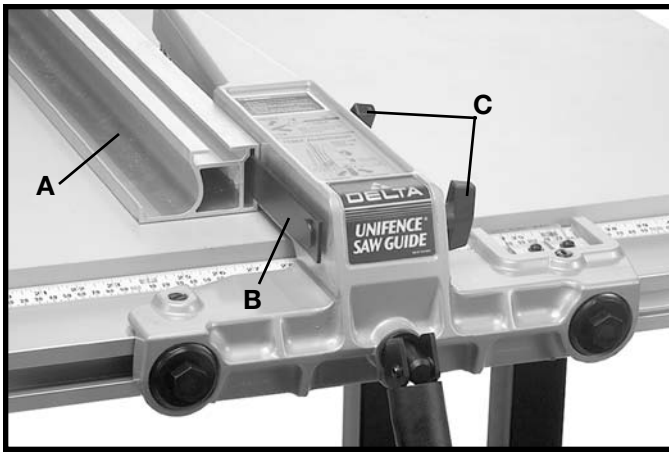
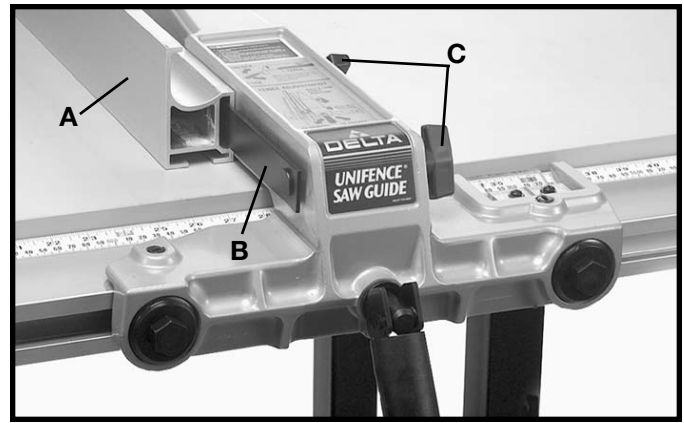

Fig. 70
Fig. 71
1. The fence (A) can be assembled to clamp plate (B) in either the horizontal position as shown in Fig. 70, or the vertical position as shown in Fig. 71. Make certain the two lock knobs, one of which is shown at (C), are loose and slide fence (A) onto clamp plate (B) as shown. Then tighten the two lock knobs (C).